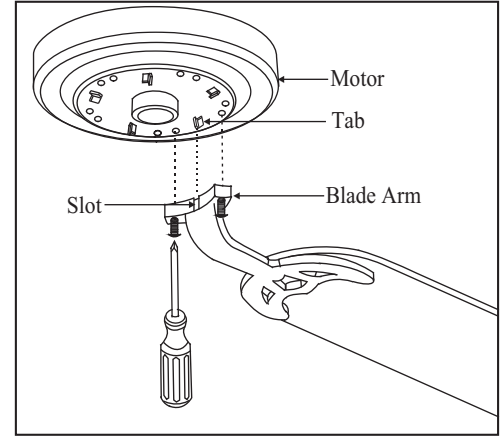

Figure 13
3. Fasten the blade assemblies to the motor housing by lining up the slots of the blade arms with the tabs on the motor housing, then tighten the two screws and washers already installed in the blade arms (Figure 13).